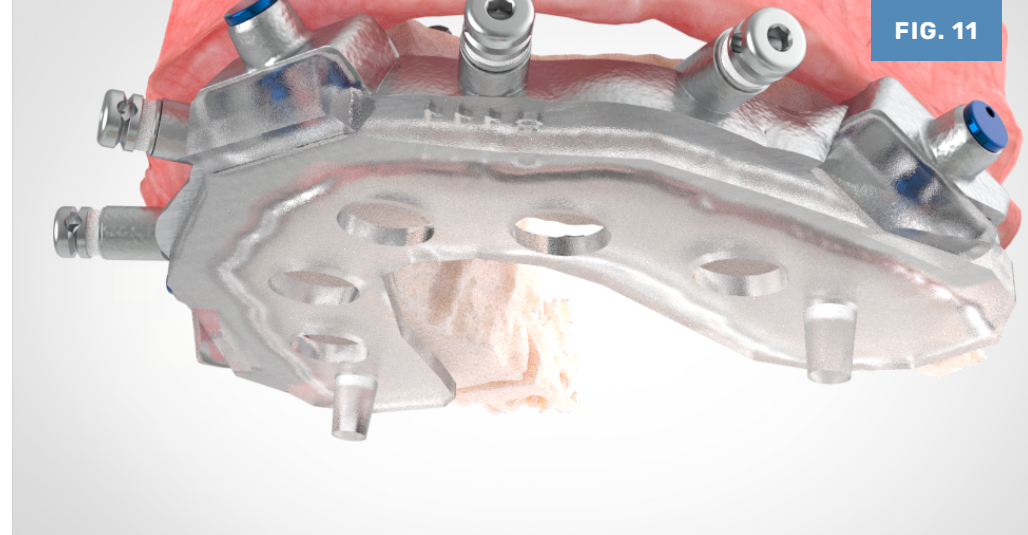

FIG. 12
2. Once the abutments are placed in the correct rotation, the driver will be able to engage the screws. If a multi-unit abutment's screw access hole does not line up with the squares, remove and rotate the implant into the proper direct/index, then seat the abutment. **(FIG. 12)**